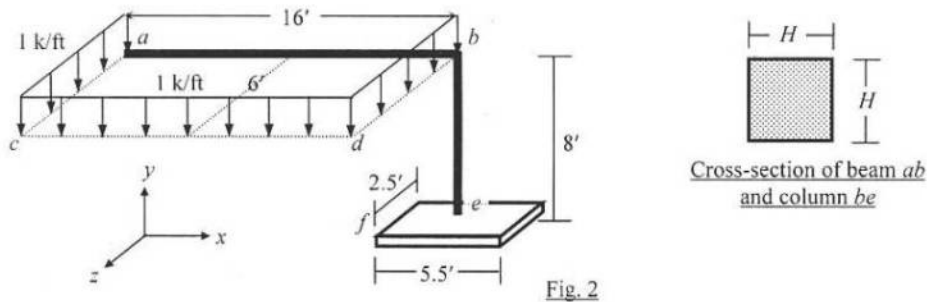
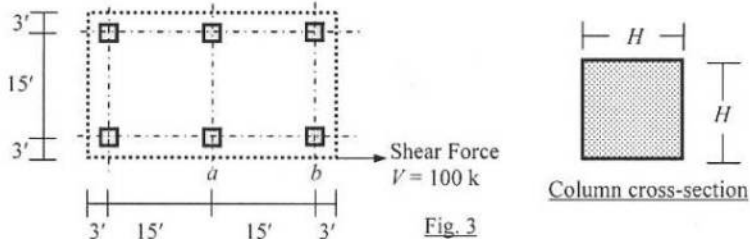

Fig. 2
Fig. 3
2. Fig. 2 shows beams ac , cd and db carrying uniformly distributed loads of 1 k/ft, and supported by square-shaped beam ab and column be .
- Calculate the required width and depth (H) of beam ab , if allowable torsional shear stress is 100 psi and allowable torsional rotation is 1° [Given: Shear modulus $G = 1 \times 10^6$ psi].
3. For the frame structure shown in Fig. 2, calculate the
- Required width and depth (H) of column be , if the allowable normal stress is 400 psi,
4. Fig. 3 shows plan of a building floor supported by six columns and subjected to shear force $V = 100$ k, applied as shown.
- (b) For the water shooting out of the pipe and nozzle under conditions shown in Figure 2 determine the height above nozzle to which water will "shoot" (i.e. distance h in Figure 2). Assume no head loss. (12)